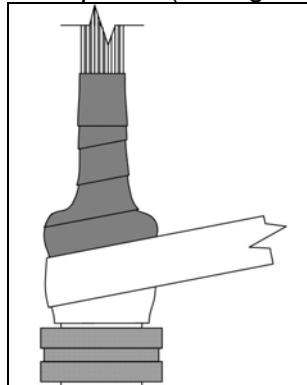

Figure 3
- 3.4.3** After the first full wrap is complete, continue wrapping with a 50% overlap over the top of the StretchSeal Tape. Use the line in the middle of Self-Fusing Silicone Tape as a guide and remove the release film as required. (see figure 3)